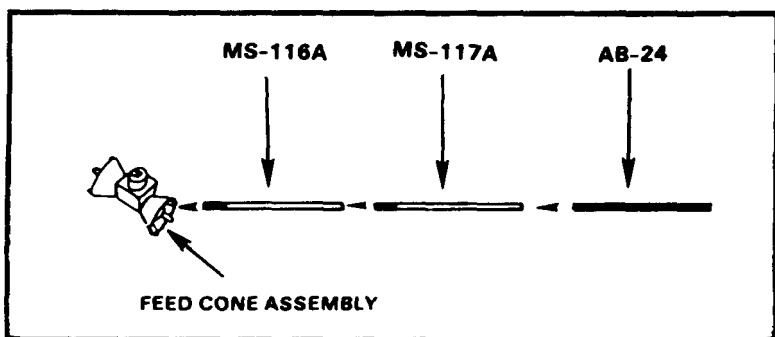

Figure 3-10. Assembling antenna elements.
d. Assemble six sets of antenna sections (one each: MS-116A, MS-117A, and AB-24 in each section) (Figure 3-10).